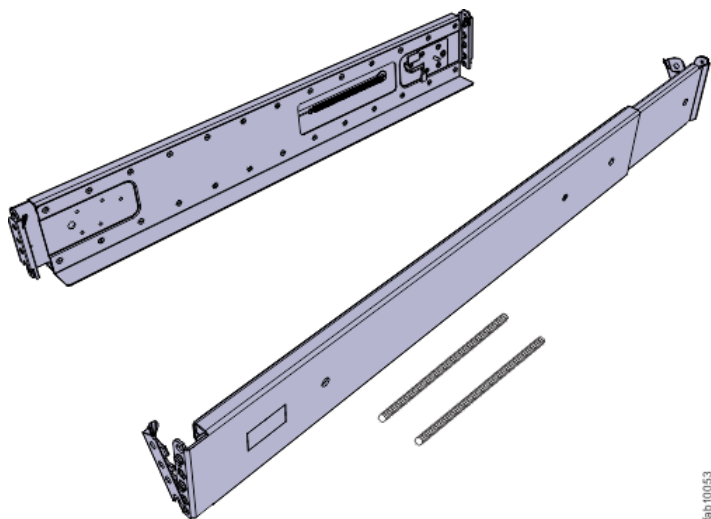

Figure 32. Expansion enclosure support rails
1. Locate the expansion enclosure rails (Figure 32 on page 69).